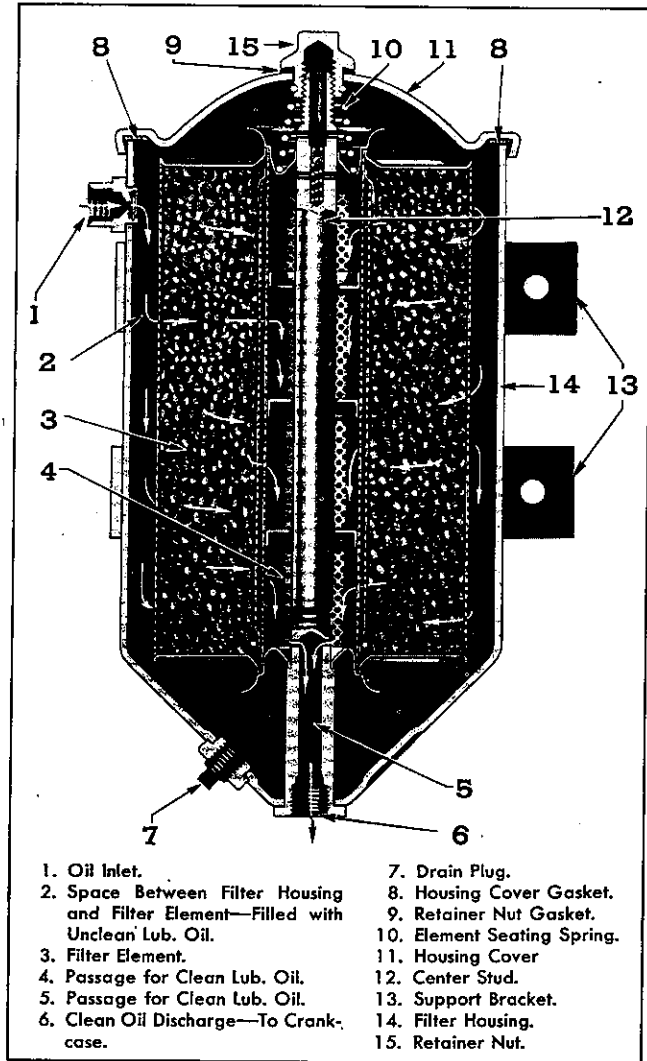

Fig. 22—Replaceable Element Type Lubricating Oil Filter Assembly.
**Operation**—As shown in Fig. 22, lubricating oil to be filtered is forced, by the pressure lubricating oil pump, through the restricted filter inlet (1), and into the annular space (2), surrounding the filter element. Impurities are absorbed within the element (3) as the oil is forced through and into the metal cylinder (4). The passages in the central tube permit filtered oil to flow into the hollow passage (5) and through the outlet passage (6) to the engine crankcase. Because of this continuous flow through the filter, the lubri-
**Replace Filter Elements**—To replace the filter element (engine not running): Refer to Figs. 22 and 23.
1. Remove filter cover (11) by backing-out on screw at center of cover. Withdraw element (3) from filter housing (14).
2. Remove drain plug (7) at bottom of housing and flush out with fuel oil or carbon tetrachloride.
3. Install a new element on center stud (12), replace the old with a new cover gasket (8).
4. Being sure that seating spring (10) is in place to properly position the filter element replace cover (11) and tighten retaining nut (15); being sure gasket (8) is in place under head of nut.